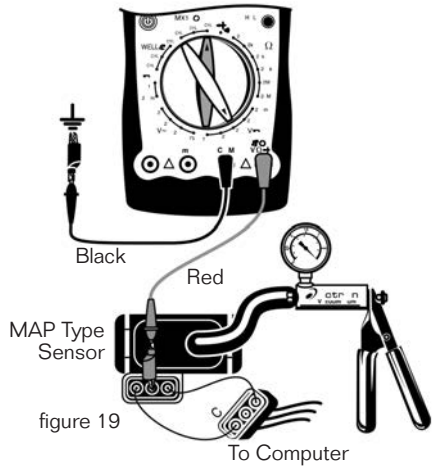

figure 19
- (1) The same as in the resistance testing method.
- (2) Connect the red and black test lead probes respectively to the signal test terminal and ground terminal. Refer to various kinds of automotive servicing manuals for its position and the resistance to be tested.
4. Absolute Pressure (MAP) and Baro Sensor (see figure 19)